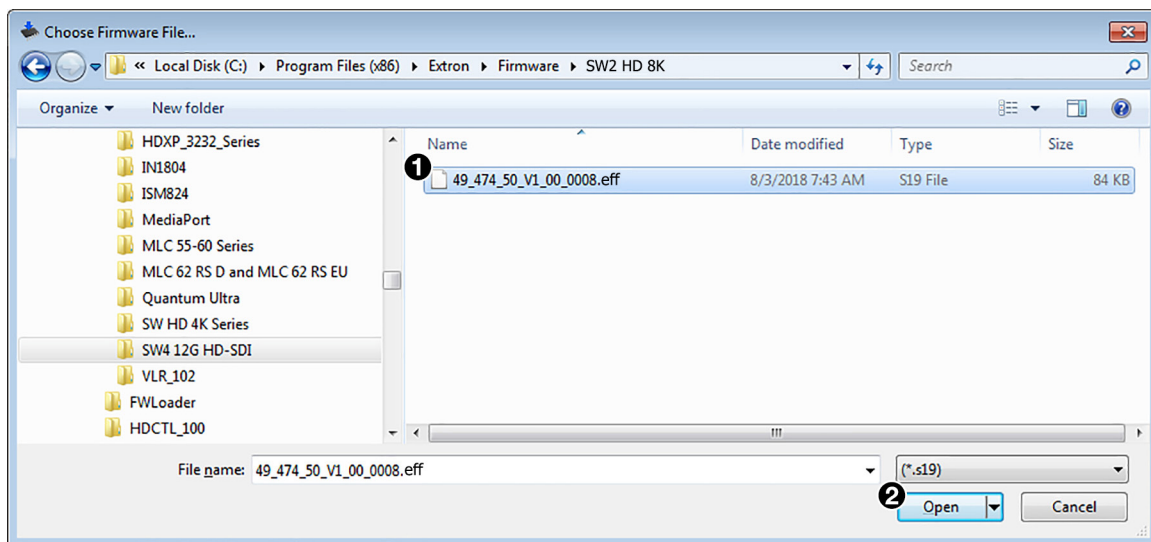

Figure 19. Choose Firmware File Window
5. In the Choose Firmware File window, browse to locate the new firmware file, select it (see figure 19, ① on page 31) and click **Open** (②).